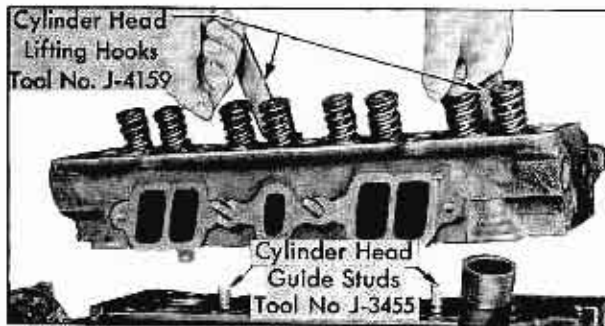

Fig. 10-6 Removing and Installing Cylinder Head
27. Lift cylinder head off dowels and remove from engine, Fig. 10-6.
3. Install Cylinder Head Guide Studs, Tool No. J-3455, (Fig. 10-6), in cylinder head bolt holes at each end of block.